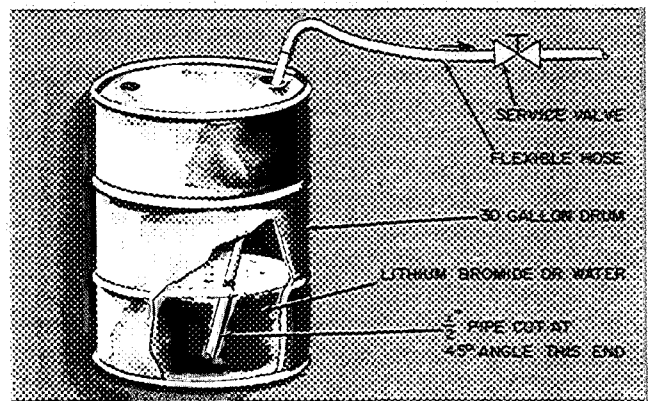

Fig. 13 — Charging Solution and Refrigerant
3. Insert the 1/2-in. pipe in the container and connect the flexible hose to the *solution* pump service valve (Fig. 13). On machine sizes 077 thru 124, charge thru either solution pump service valve.